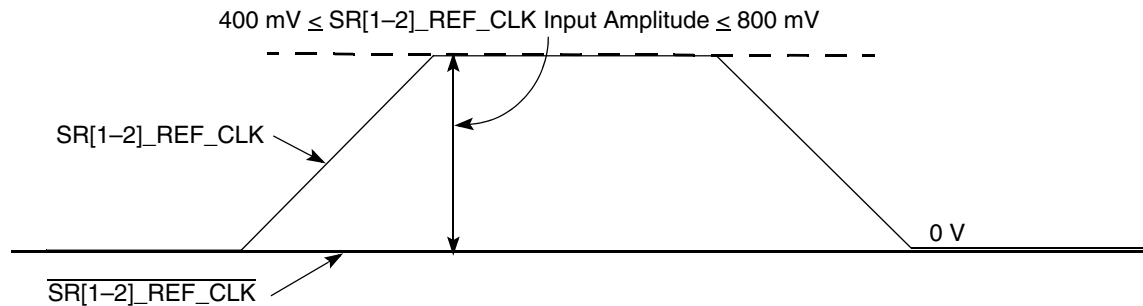

Figure 9. Single-Ended Reference Clock Input DC Requirements
- The  $SR[1-2]_{REF\_CLK}$  input average voltage must be between 200 and 400 mV. Figure 9 shows the SerDes reference clock input requirement for single-ended signalling mode.